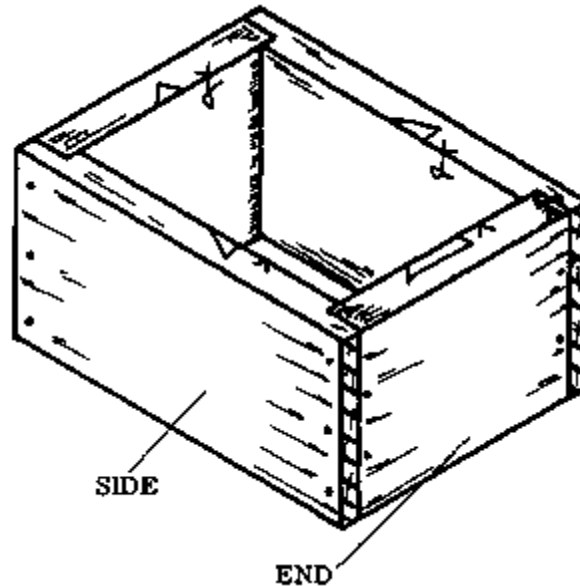

Fig. 1
- Mark the sides and ends as shown in Fig. 1, on the face edges (Marking of frames, page 88). All further marking will be done from the sides with these marks.